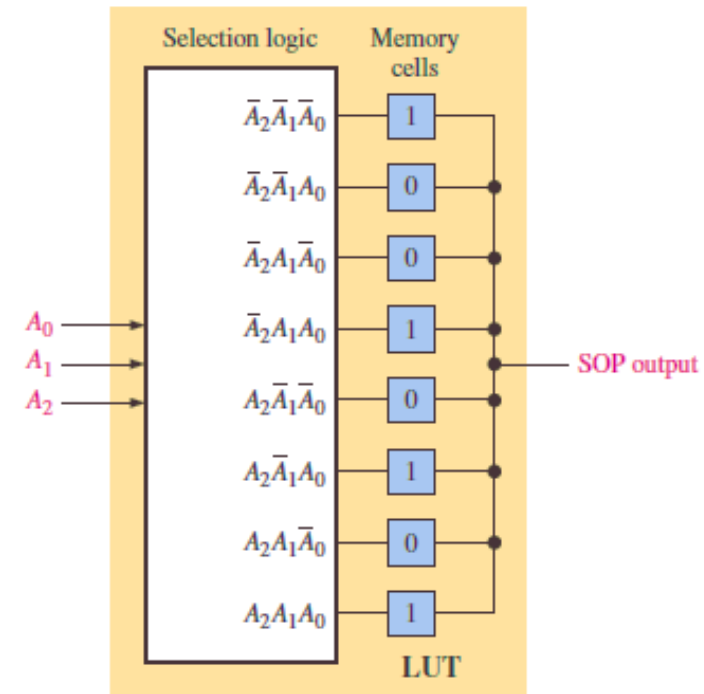

FIGURE 12 The basic concept of an LUT programmed for a particular SOP output.
- A pattern of 1s and 0s can be programmed into the LUT memory cells, as illustrated in Figure 12 for a specified SOP function. Each 1 means the associated product term appears in the SOP output, and each 0 means that the associated product term does not appear in the SOP output. The resulting SOP output expression is